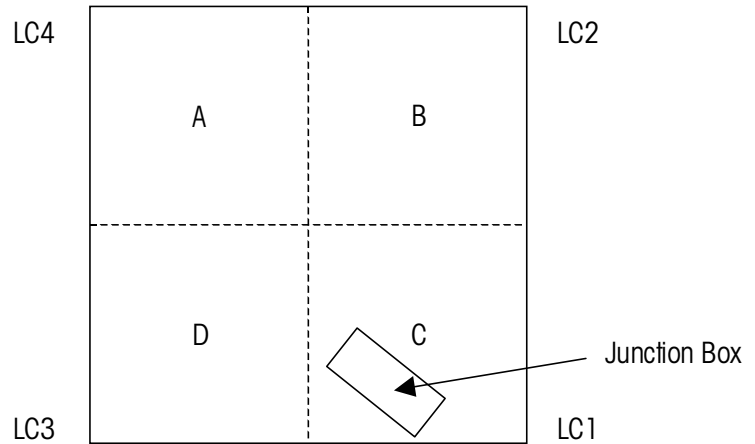

Figure 4-2: Test Weight Locations
2. Figure 4-2 shows test weight locations (A, B, C, and D) at the center of each quadrant of the scale platform. Place a test weight (equal to half the rated scale capacity) at location A and record the weight reading. Then move the test weight to location B and record the weight reading. Continue until you have taken a weight reading at each of the four locations.
3. Place the test weight at the location immediately clockwise from the location at which you got the lowest weight reading. Then adjust the trimming potentiometer for the load cell that corresponds to the corner of the scale where the test weight is positioned (see Figure 4-2). Make the adjustment by turning the potentiometer until the weight reading matches the lowest reading.